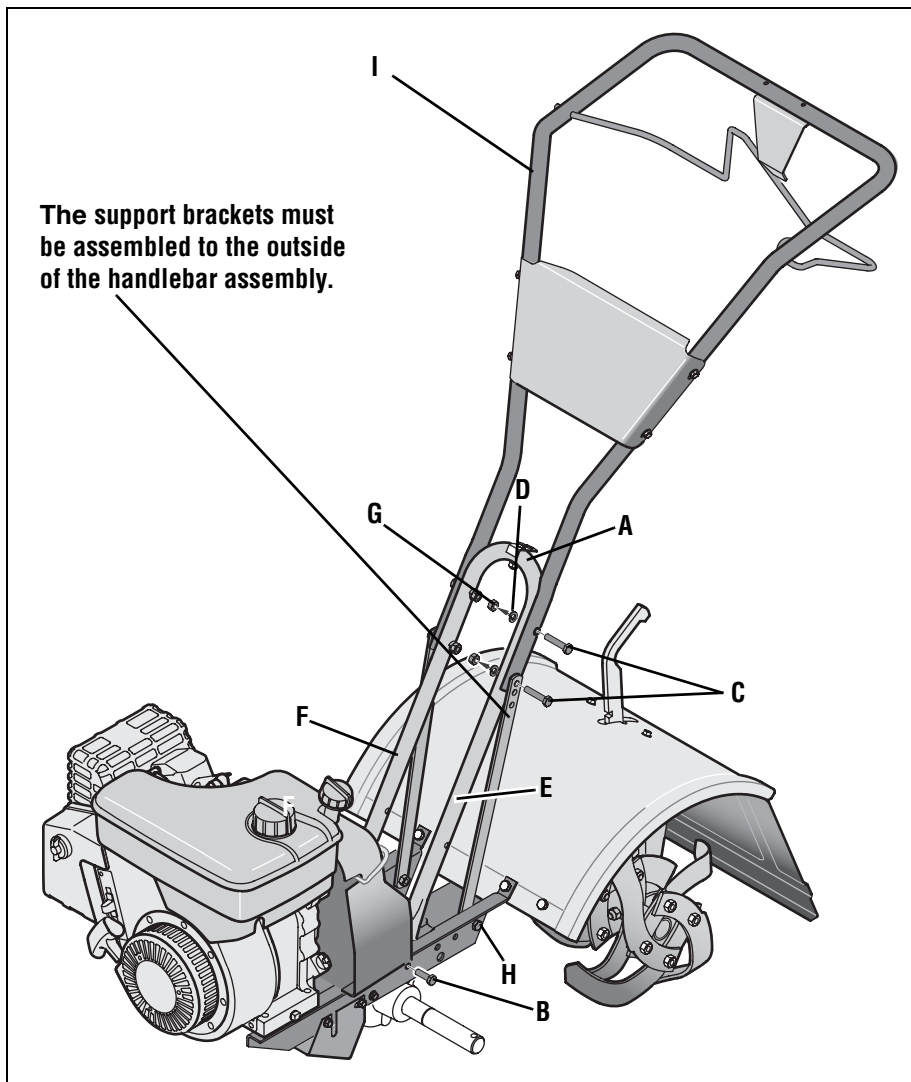

Fig. 2.2: Attach handlebar.
1	Handlebar Support (see A, Fig. 2-2)
1	Handlebar Assembly (see K, Fig. 2-2)
1. Loosely attach the legs of the handlebar support (A, Fig. 2-2) to the inner sides of the tiller frame using two 3/8"-16 x 3/4" hex hd. screws (B), 3/8" flat washers, and 3/8"-16 hex locknuts.
2. Using two 5/16"-18 x 1-1/2" screws (C), 5/16" split lock washers (D) and 5/16"-18 hex nuts (G), loosely attach the handlebar support (A) using the upper holes. Tighten the two screws securely.
3. There are three height adjustment holes in the two handlebar support brackets (E and F, Fig. 2-2). Use a setting that will position the handlebars at approximately waist level when the tines are 3"-4" into the soil. Loosely attach the support brackets **to the outside** of the handlebar assembly (I) using two 5/16"-18 x 1-1/2" screws (G), 5/16" split lock washers (D) and 5/16"-18 hex nuts (G). **NOTE:** If a support bracket will not move, loosen attaching screw (H) and nut.